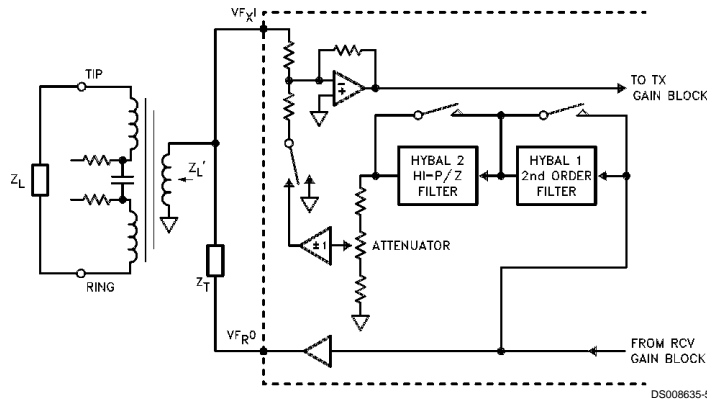

FIGURE 2. Simplified Diagram of Hybrid Balance Circuit
*Figure 2* shows a simplified diagram of the local echo path for a typical application with a transformer interface. The magnitude and phase of the local echo signal, measured at VFXI, are a function of the termination impedance ZT, the line transformer and the impedance of the 2W loop, ZL. If the impedance reflected back into the transformer primary is expressed as ZL' then the echo path transfer function from VFRO to VFXI is:
On initial power-up, the Hybrid Balance filter is disabled. Before the hybrid balance filter can be programmed it is necessary to design the transformer and termination impedance in order to meet system 2W input return loss specifications, which are normally measured against a fixed test impedance (600 or 900 $\Omega$  in most countries). Only then can the echo path be modeled and the hybrid balance filter programmed. Hybrid balancing is also measured against a fixed test impedance, specified by each national Telecom administration to provide adequate control of talker and listener echo over the majority of their network connections. This test impedance is ZL in *Figure 2*. The echo signal and the degree of transhybrid loss obtained by the programmable filter must be measured from the PCM digital input, DRO, to the PCM digital output, DXO, either by digital test signal analysis or by conversion back to analog by a PCM CODEC/Filter.